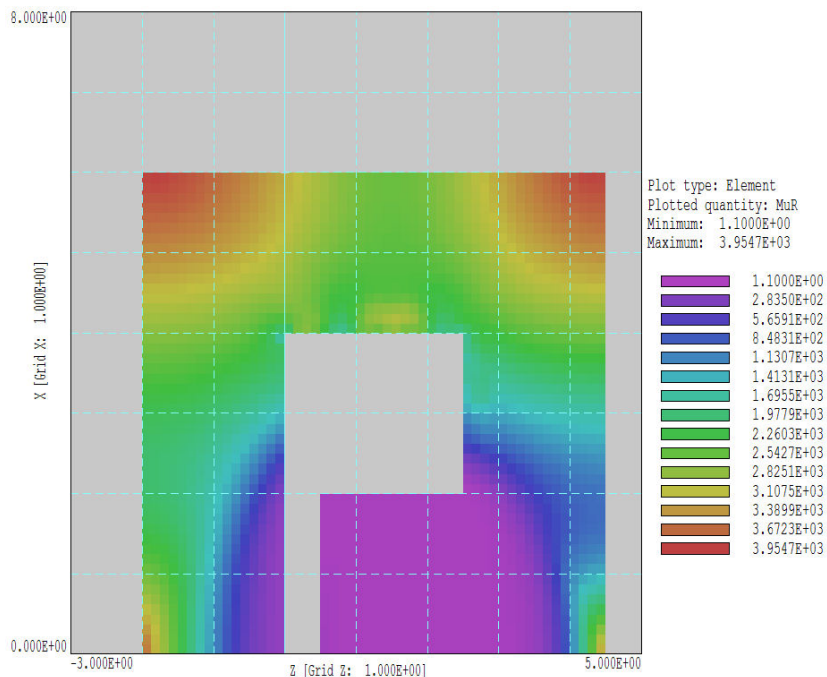

Figure 29: Spatial distribution of  $\mu_r$  for the final **Magnum** solution in the plane  $y = 0.0$ .
**PerMag** results at  $NCycle = 17$ . The peak value computed by **Magnum** is  $B_z = 2.595$  tesla. The **PerMag** and **Magnum** predictions differ by less than 1%. The agreement is striking considering that the two solutions use different mesh types and different functional forms for the material permeability. Finally, Fig. 29 shows the spatial distribution of  $\mu_r$  within the core. The figure shows the upper half of the core in the slice plane  $y = 0.0$  cm.